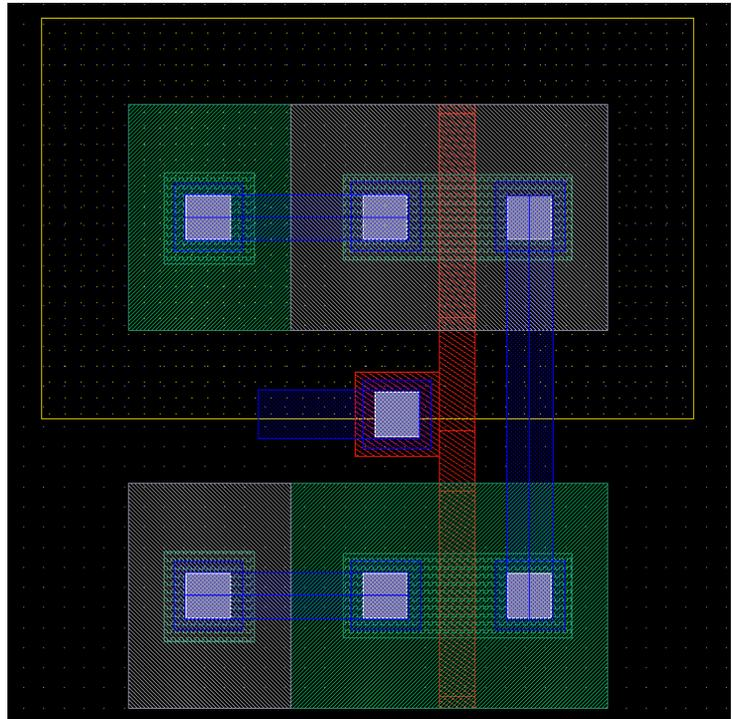

Fig. 9: Inverter Layout. Create the NMOS transistor by copying the PMOS to the space below.
1. Connect the gates with polysilicon 1 as shown in Figure 9.